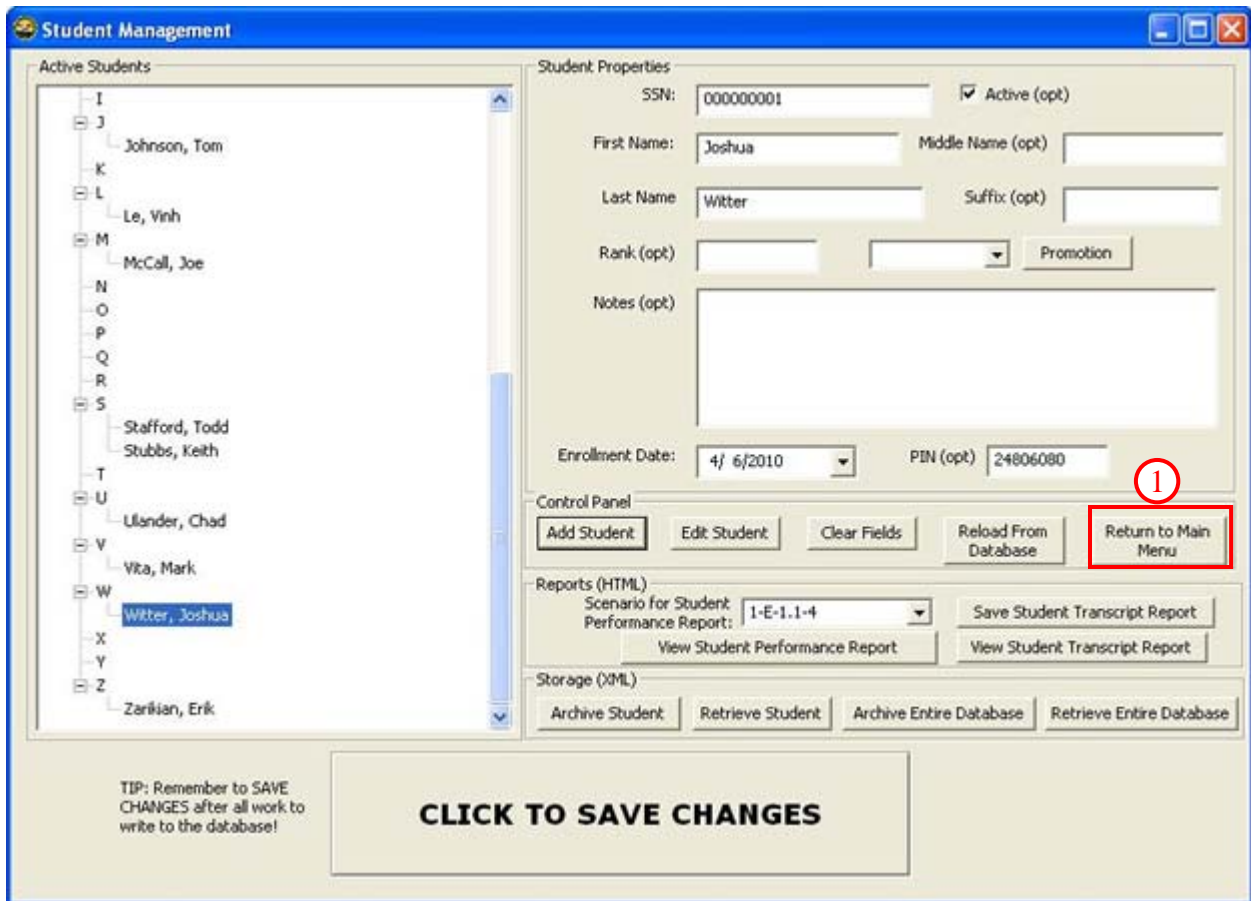

Figure 69. Student Management - Return to Main Menu
1. Click the [RETURN TO MAIN MENU] button (Figure 69) to close the screen and return to the Main Menu.